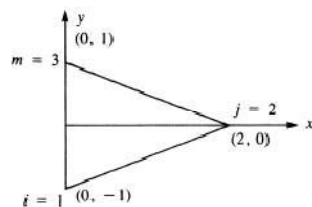

Figure 4
- f) Evaluate the stiffness matrix for the element shown in Figure 4. The coordinates are shown in units of inches. Assume plane stress conditions. Let $E = 30 \times 10^6$ psi, $\mu = 0.25$, and thickness $t = 1$ in. Assume the element nodal displacements have been determined to be $u_1 = 0.0$, $v_1 = 0.0025$ in., $u_2 = 0.0012$ in., $v_2 = 0.0$, $u_3 = 0.0$, and $v_3 = 0.0025$ in. Determine the element stresses.